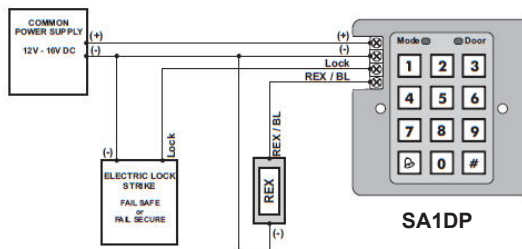

Figure 3 : Wiring the Lock Strike Relay and REX
4. Pass the wires through the exit/entry holes and attach them to the controller's terminal blocks, as shown in the wiring diagrams. (See Figure 3 & 4 in Wiring Diagrams for wiring diagrams of common installations).
2 of the typical wiring diagrams are illustrated below (see Figure 3 & 4 in Wiring Diagrams).